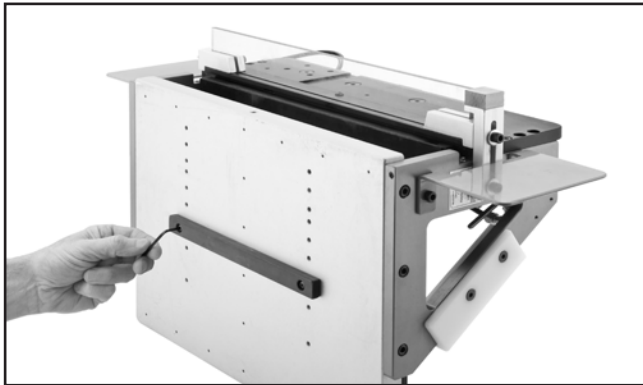

Figure 14. Attaching the miter bar to the jig.
The jig can use a $\frac{3}{8} \times \frac{3}{4}$ " miter bar for straight shaping and table saw operations. Nine positions allow you to adjust the jig-to-cutterhead distance. Attach the miter bar with (2) M5-.8 x 16 button head cap screws for Models T10460/T10462 and (3) M5-.8 x 16 button head cap screws for Model T10464, as shown in **Figure 14**.